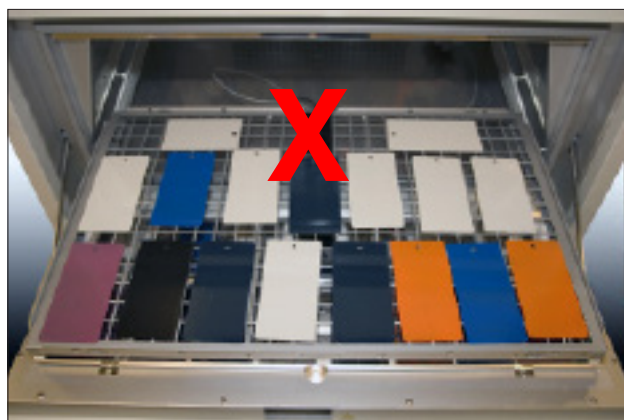
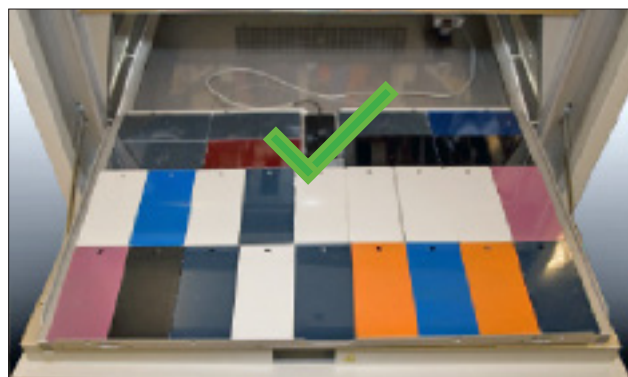

Figure 11.4f: Gaps between specimens on the open back tray affect cooling air flow.
Figure 11.4g: Fill in gaps between specimens on the open back tray for proper cooling air flow.
- When using the open back tray, all spaces not filled with test specimens must be filled in for proper air flow (Figure 11.4f and Figure 11.4g).